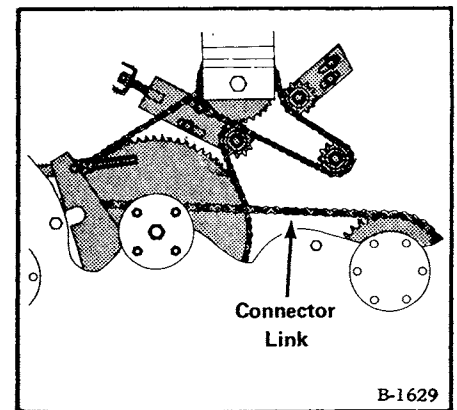

Fig. 4-11 Final Drive Chain
- (1) Rotate the drive until the connector link is in position as shown (Fig. 4-11).
- (2) Loosen the idler adjustment nuts and lift the rod up and out of the way.
- (3) Use a chain breaker tool to remove the connector link.